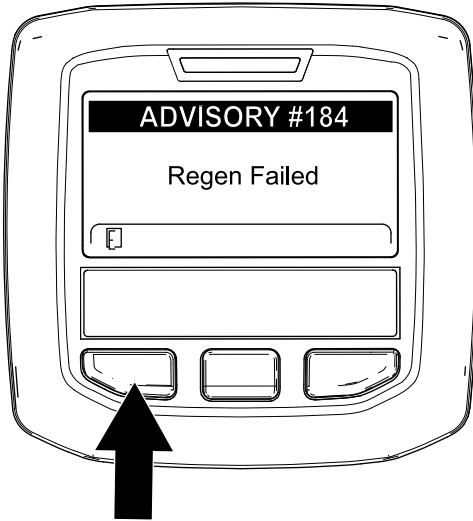

Figure 91
**Note:** If the regeneration fails to complete, the InfoCenter displays Advisory #184 (Figure 91). Press the left button to exit to the home screen.